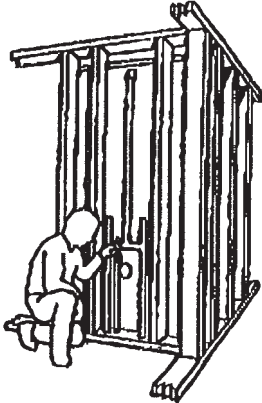

Fig. 5
- Install the drain line and trap as shown by your construction plans. Do not allow drain lines to contact edges of drain line hole cut in sub-flooring. Install the water supply line for attachment to fittings that are to be positioned later during the installation. (Fig. 5)